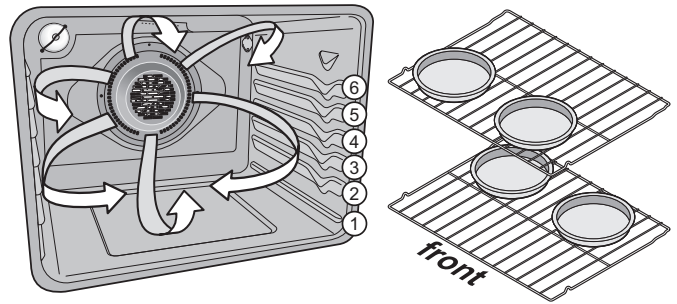

Figure 22: Pan spacing and oven rack positions
- When using 2 oven racks place racks in positions 3 and 5 for and position cookware as shown in Figure 22.